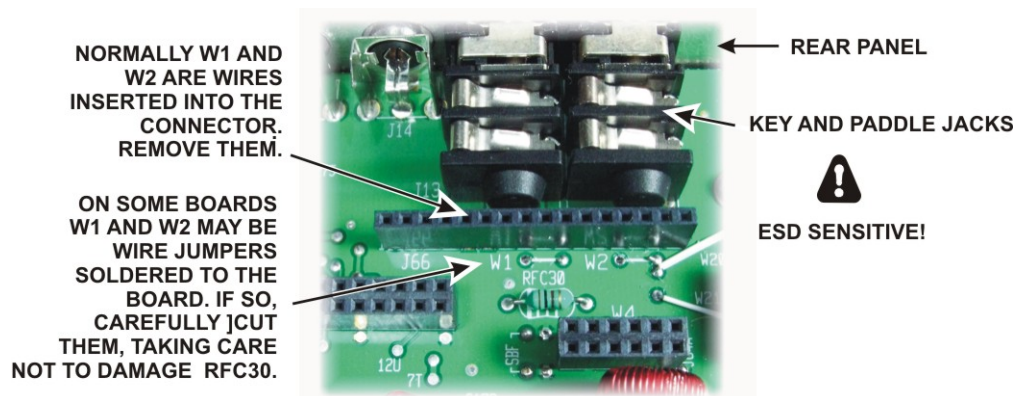

Figure 7. Removing Jumpers W1 and W2.
- Remove jumpers W1 and W2. The jumpers may be wires plugged into connector J66, or they may be wire jumpers soldered to pads on the RF board (see Figure 7). If soldered to the board, take care not to lose any pieces of wire inside the K3. No more than 1/8" (3mm) of lead length should be left to avoid the possibility of shorting to a nearby circuit. *Take care to identify the correct jumpers. Do not cut nearby jumpers W20 or W21!*